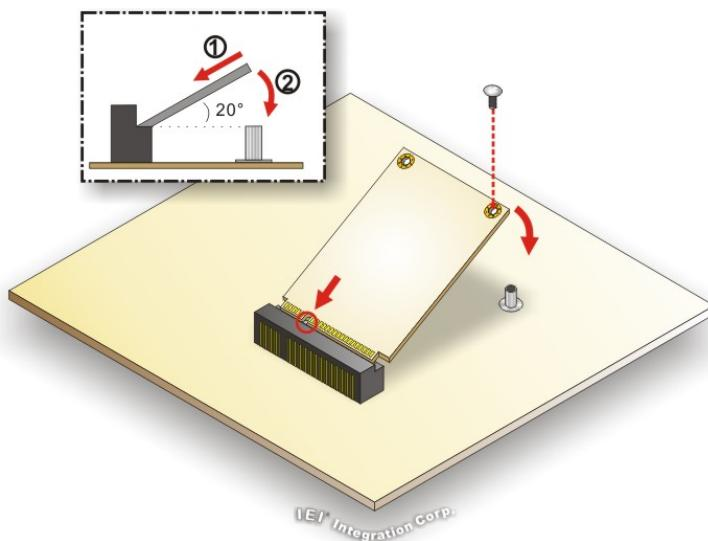

Figure 3-6: mSATA Module Installation
Step 4: Secure the mSATA module with the retention screw. Push the other end of the mSATA module down and secure the module with the previously removed retention screw (**Figure 3-6**).